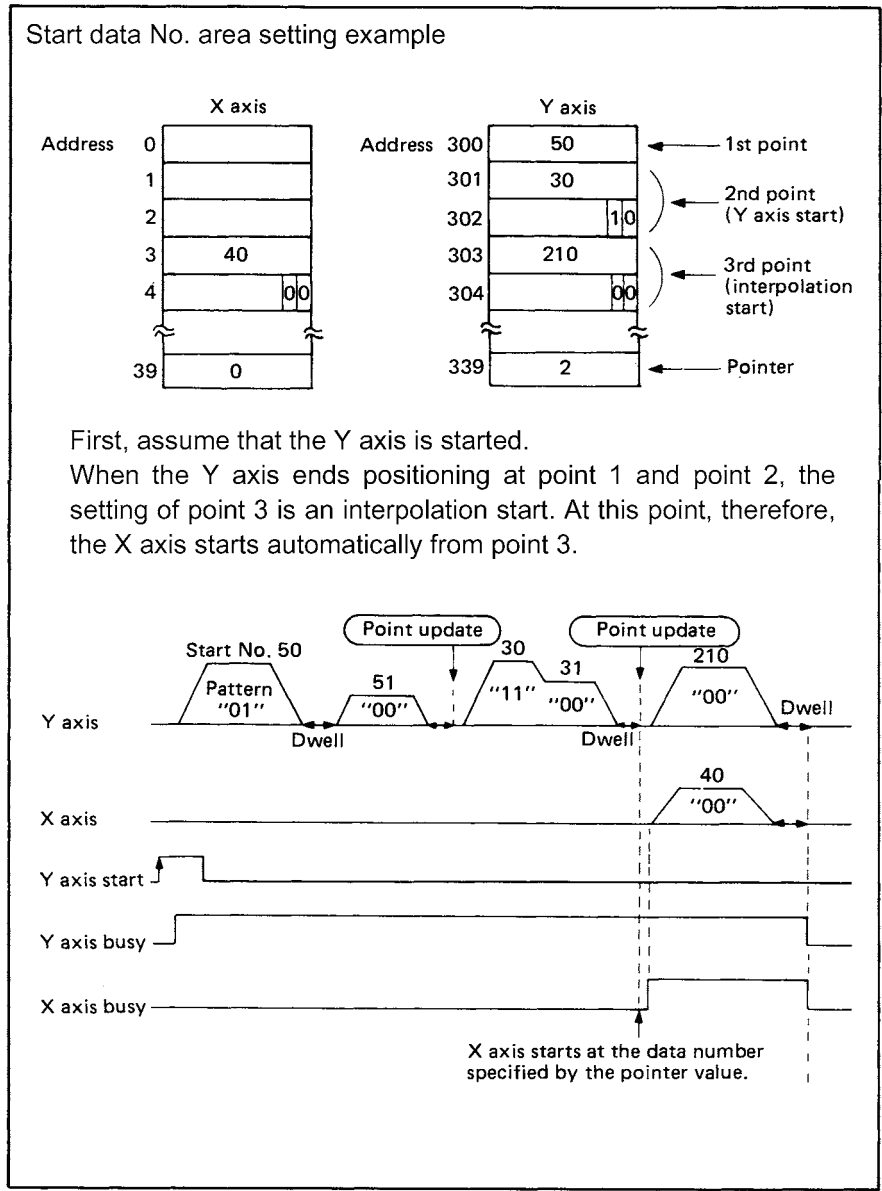

Fig. 3.28 Start Data Example 3
- 3) If the start axis is set to an interpolation start (00) or dual start (11) and the other axis is not busy, the other axis is automatically started from the start data No. corresponding to the point value of the original axis. (Refer to Fig. 3.28.)